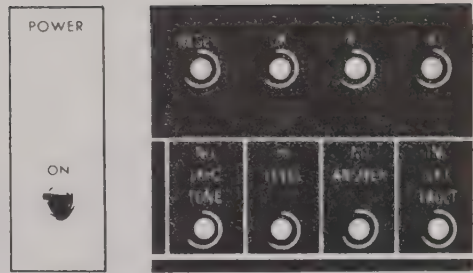

Fig. 5—Power and Reset Controls
3.05 Place the POWER switch to ON and press the RESET button for at least 2 seconds (see Fig. 5). The Model 41-3A must be reset following any interruption of ac power. The following indicators are lighted at this time: